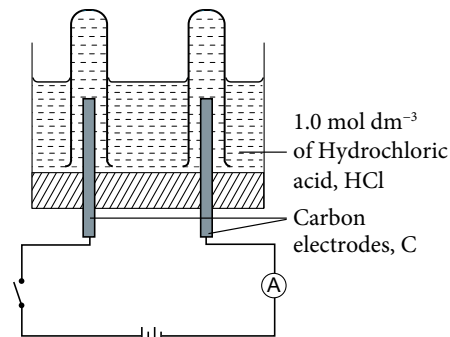

Figure 1.30
- Connect the electrodes to the switch, ammeter and battery with connecting wires as shown in Figure 1.30.